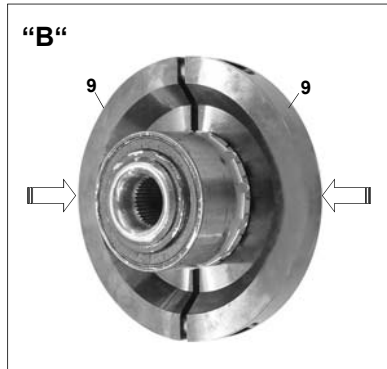

Fig. 2: Mounting the pressure screws.
2. Evenly screw pressure screws "10" into wheel hub until pressure head of the screws engages and is properly seated in the groove of the clamping shells (**Fig. 2**). Slightly tighten pressure screws uniformly in a crosswise sequence.